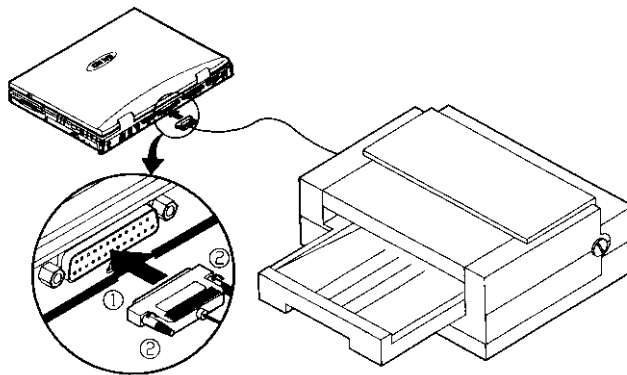

Figure 2-27
3. Tighten the screws to fasten the cable to the parallel port (Figure 2-27).